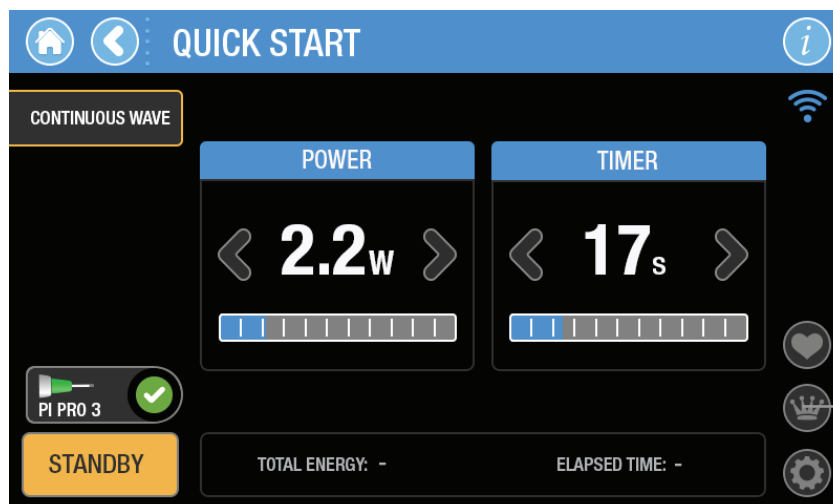

Figure 8.6
- Continuous Wave (CW) Mode (Figure 8.6)
CW treatment mode allows the user to adjust the power and the total time of firing, which can be set to OFF to enable continuous firing with no time limit (Figure 8.6).